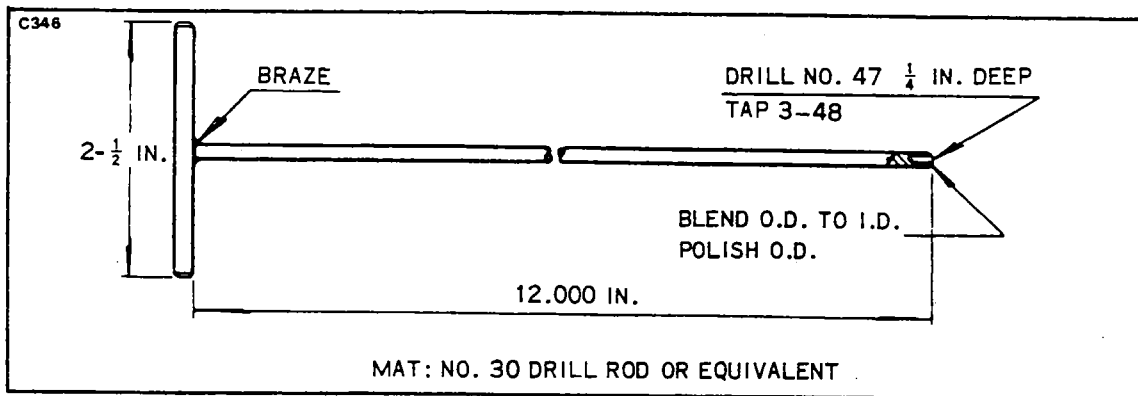

Figure 8-18. Assembly Tool
- (a) Fabricate a tool as shown in Figure 8-18 for installing the insulating sleeves over cable terminals.